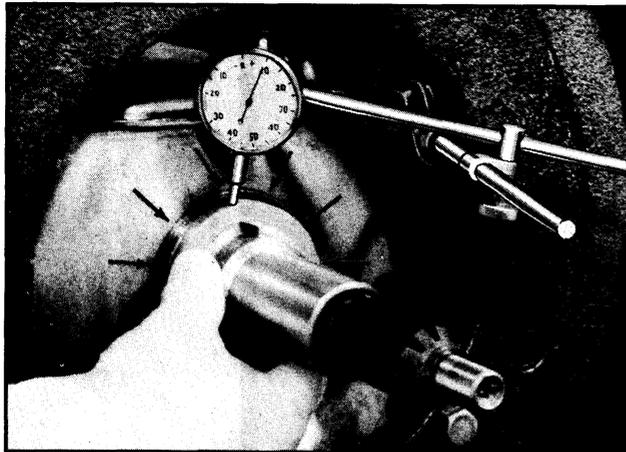

Fig. 11-31 Checking Sleeve Clearance
2. Attach a dial indicator to the transmission case as shown in Fig. 11-31.
3. Move the sleeve upward on the shaft as far as it will go in each of six positions (approximately 30° apart) throughout 180° of rotary travel as shown in Fig. 11-31.